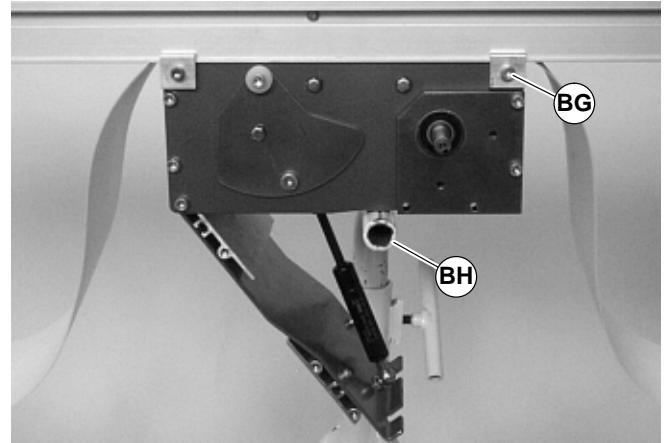

Figure 22
Before loosening clamps (BG of Figure 22), provide a support (BH) under center drive module.
1. Loosen clamp screws (BG of Figure 22) in each corner of the module.
5. Replace the center drive module onto the conveyor and attach clamps (BG of Figure 22) in each corner. Tighten screws to 9 Nm.